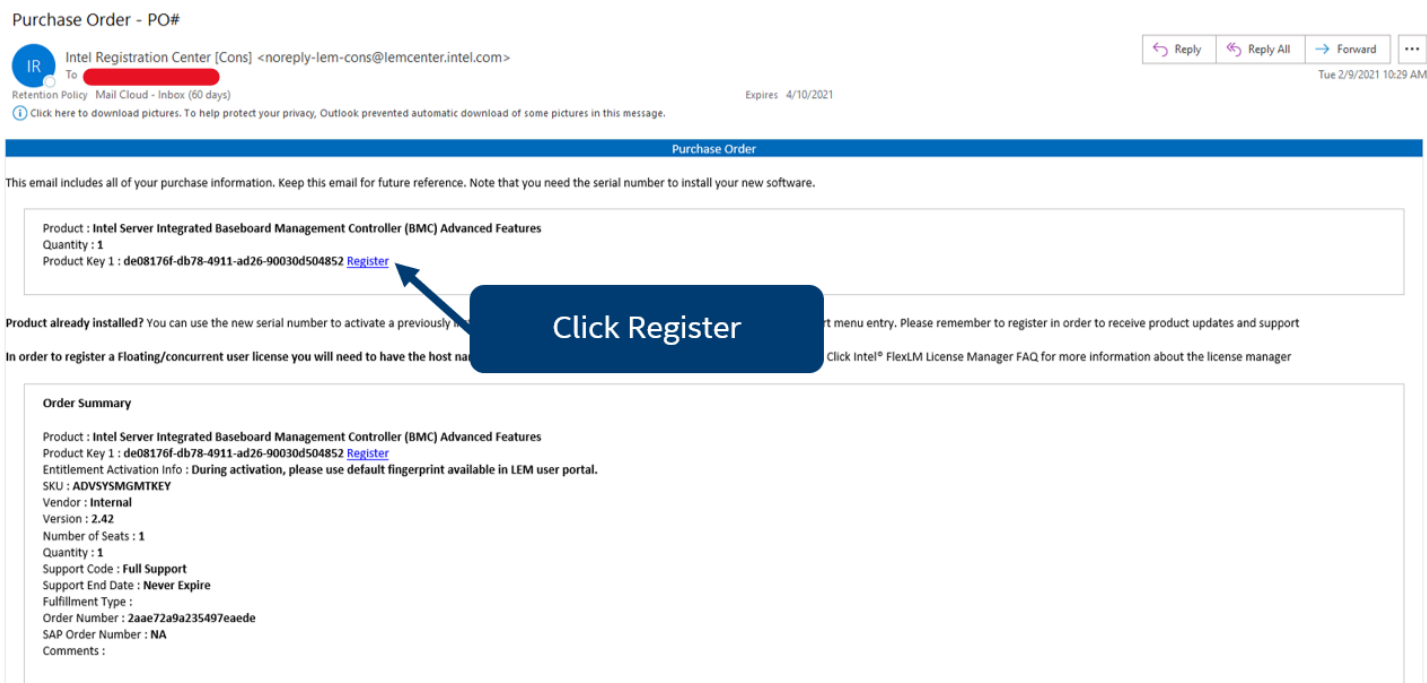

Figure 141. Example Email
3. From the email, click the **Register** link (see Figure 141) to go to the <https://servertools.intel.com/registration> web page